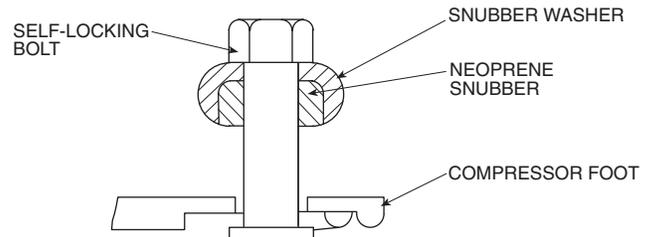

Fig. 15A — Compressor Mounting — 575B072 and 575C090,120 Units
2. As shipped, compressor is held down by 4 bolts. After unit is installed, loosen each bolt and locknut until flat washer or snubber can be moved with finger pressure. Be sure compressor floats freely on the mounting springs (541A units only). See Fig. 15A and 15B for compressor mounting.